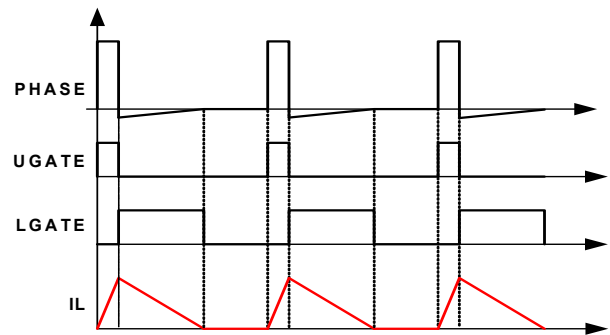

FIGURE 6. DIODE EMULATION
Diode Emulation and Period Stretching of the ISL6363 can operate in diode emulation (DE) mode to improve light load efficiency. In DE mode, the low-side MOSFET conducts when the current is flowing from source to drain and does not allow reverse current, emulating a diode. As Figure 6 shows, when LGATE is on, the low-side MOSFET carries current, creating negative voltage on the phase node due to the voltage drop across the ON-resistance. The ISL6363 monitors the current through monitoring the phase node voltage. It turns off LGATE when the phase node voltage reaches zero to prevent the inductor current from reversing the direction and creating unnecessary power loss.
If the load current is light enough, as Figure 6 shows, the inductor current will reach and stay at zero before the next phase node pulse, and the regulator is in discontinuous conduction mode (DCM). If the load current is heavy enough, the inductor current will never reach 0A, and the regulator is in CCM although the controller is in DE mode.